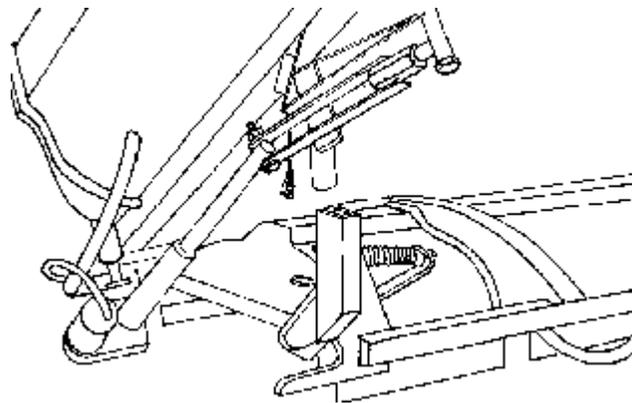

FIG 2.
4. Walk with the boom towards the sprayer. Insert the transport pin into the receiver. Be sure to secure the safety clip to the forward loop. See FIG 2.